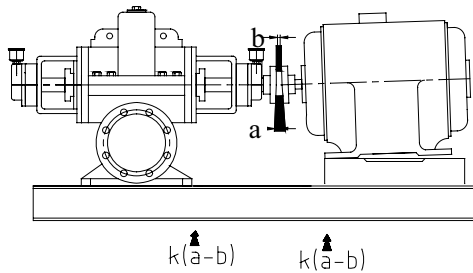

Figure 5 Angular misalignment in vertical plane and its correction
2. Angular Misalignment (Figure 5 - 7)